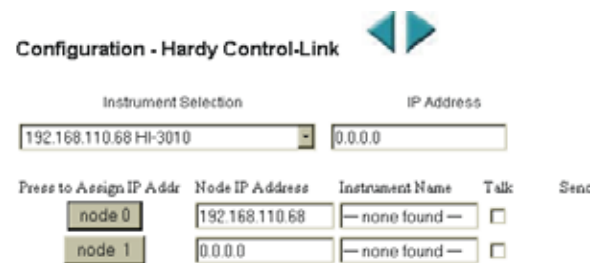

FIG. 104: HI-3010 (IP ADDRESS 192.168.110.68) ASSIGNED TO NODE 0
- Step 6. Click on the node 0 button to assign the HI-3010 to Node 0. The IP address and model of the instrument appear in the Node 0, "Node IP Address". (See Fig. 104)